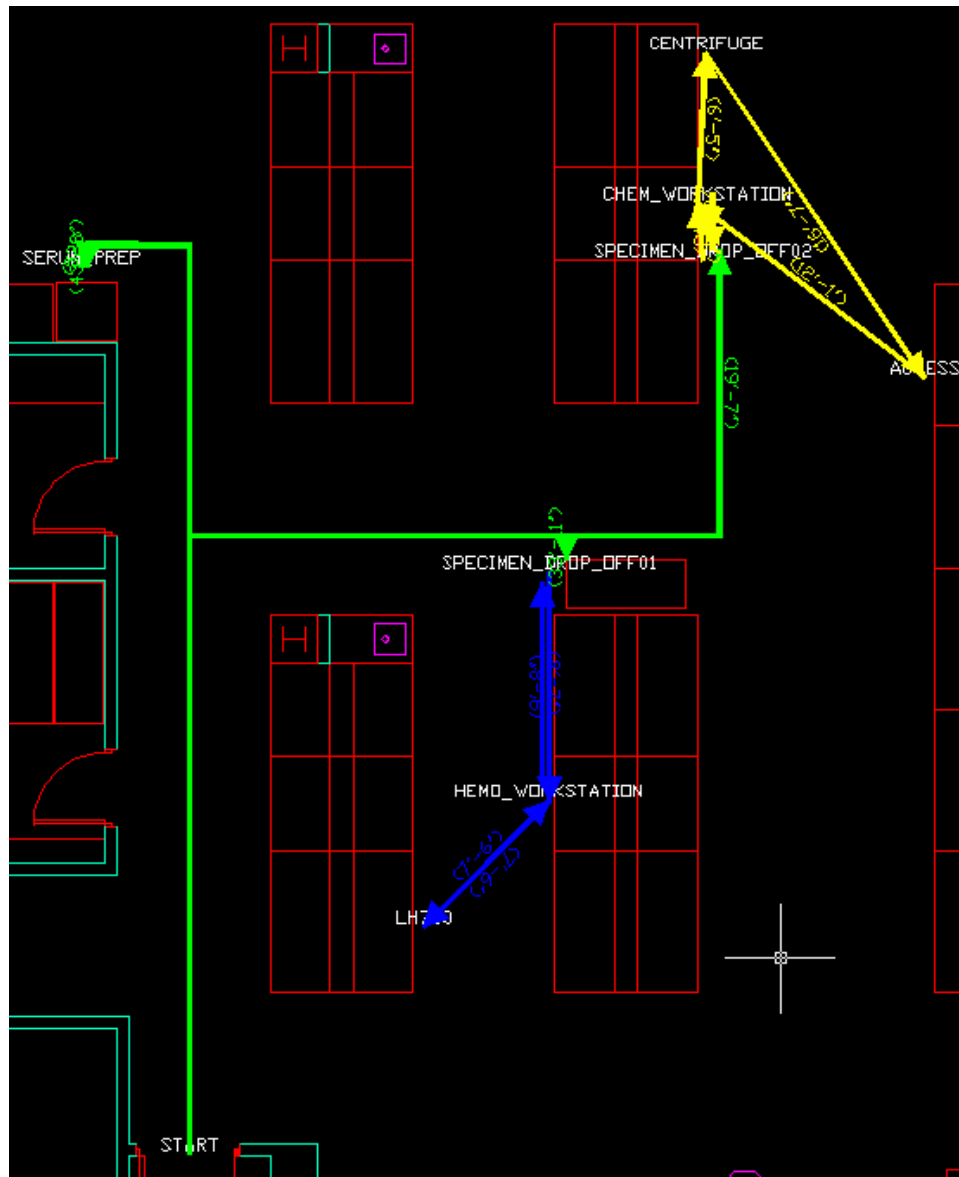

Figure 9
STEP 11: To evaluate the impact of this change. Make sure that the study is set to Stationary Part (right above the calculate button in the bottom right of the routings tab). Select the **Calculate** button. Your new total walk distance and time will be updated, and your paths will be updated. (See Figure 9)